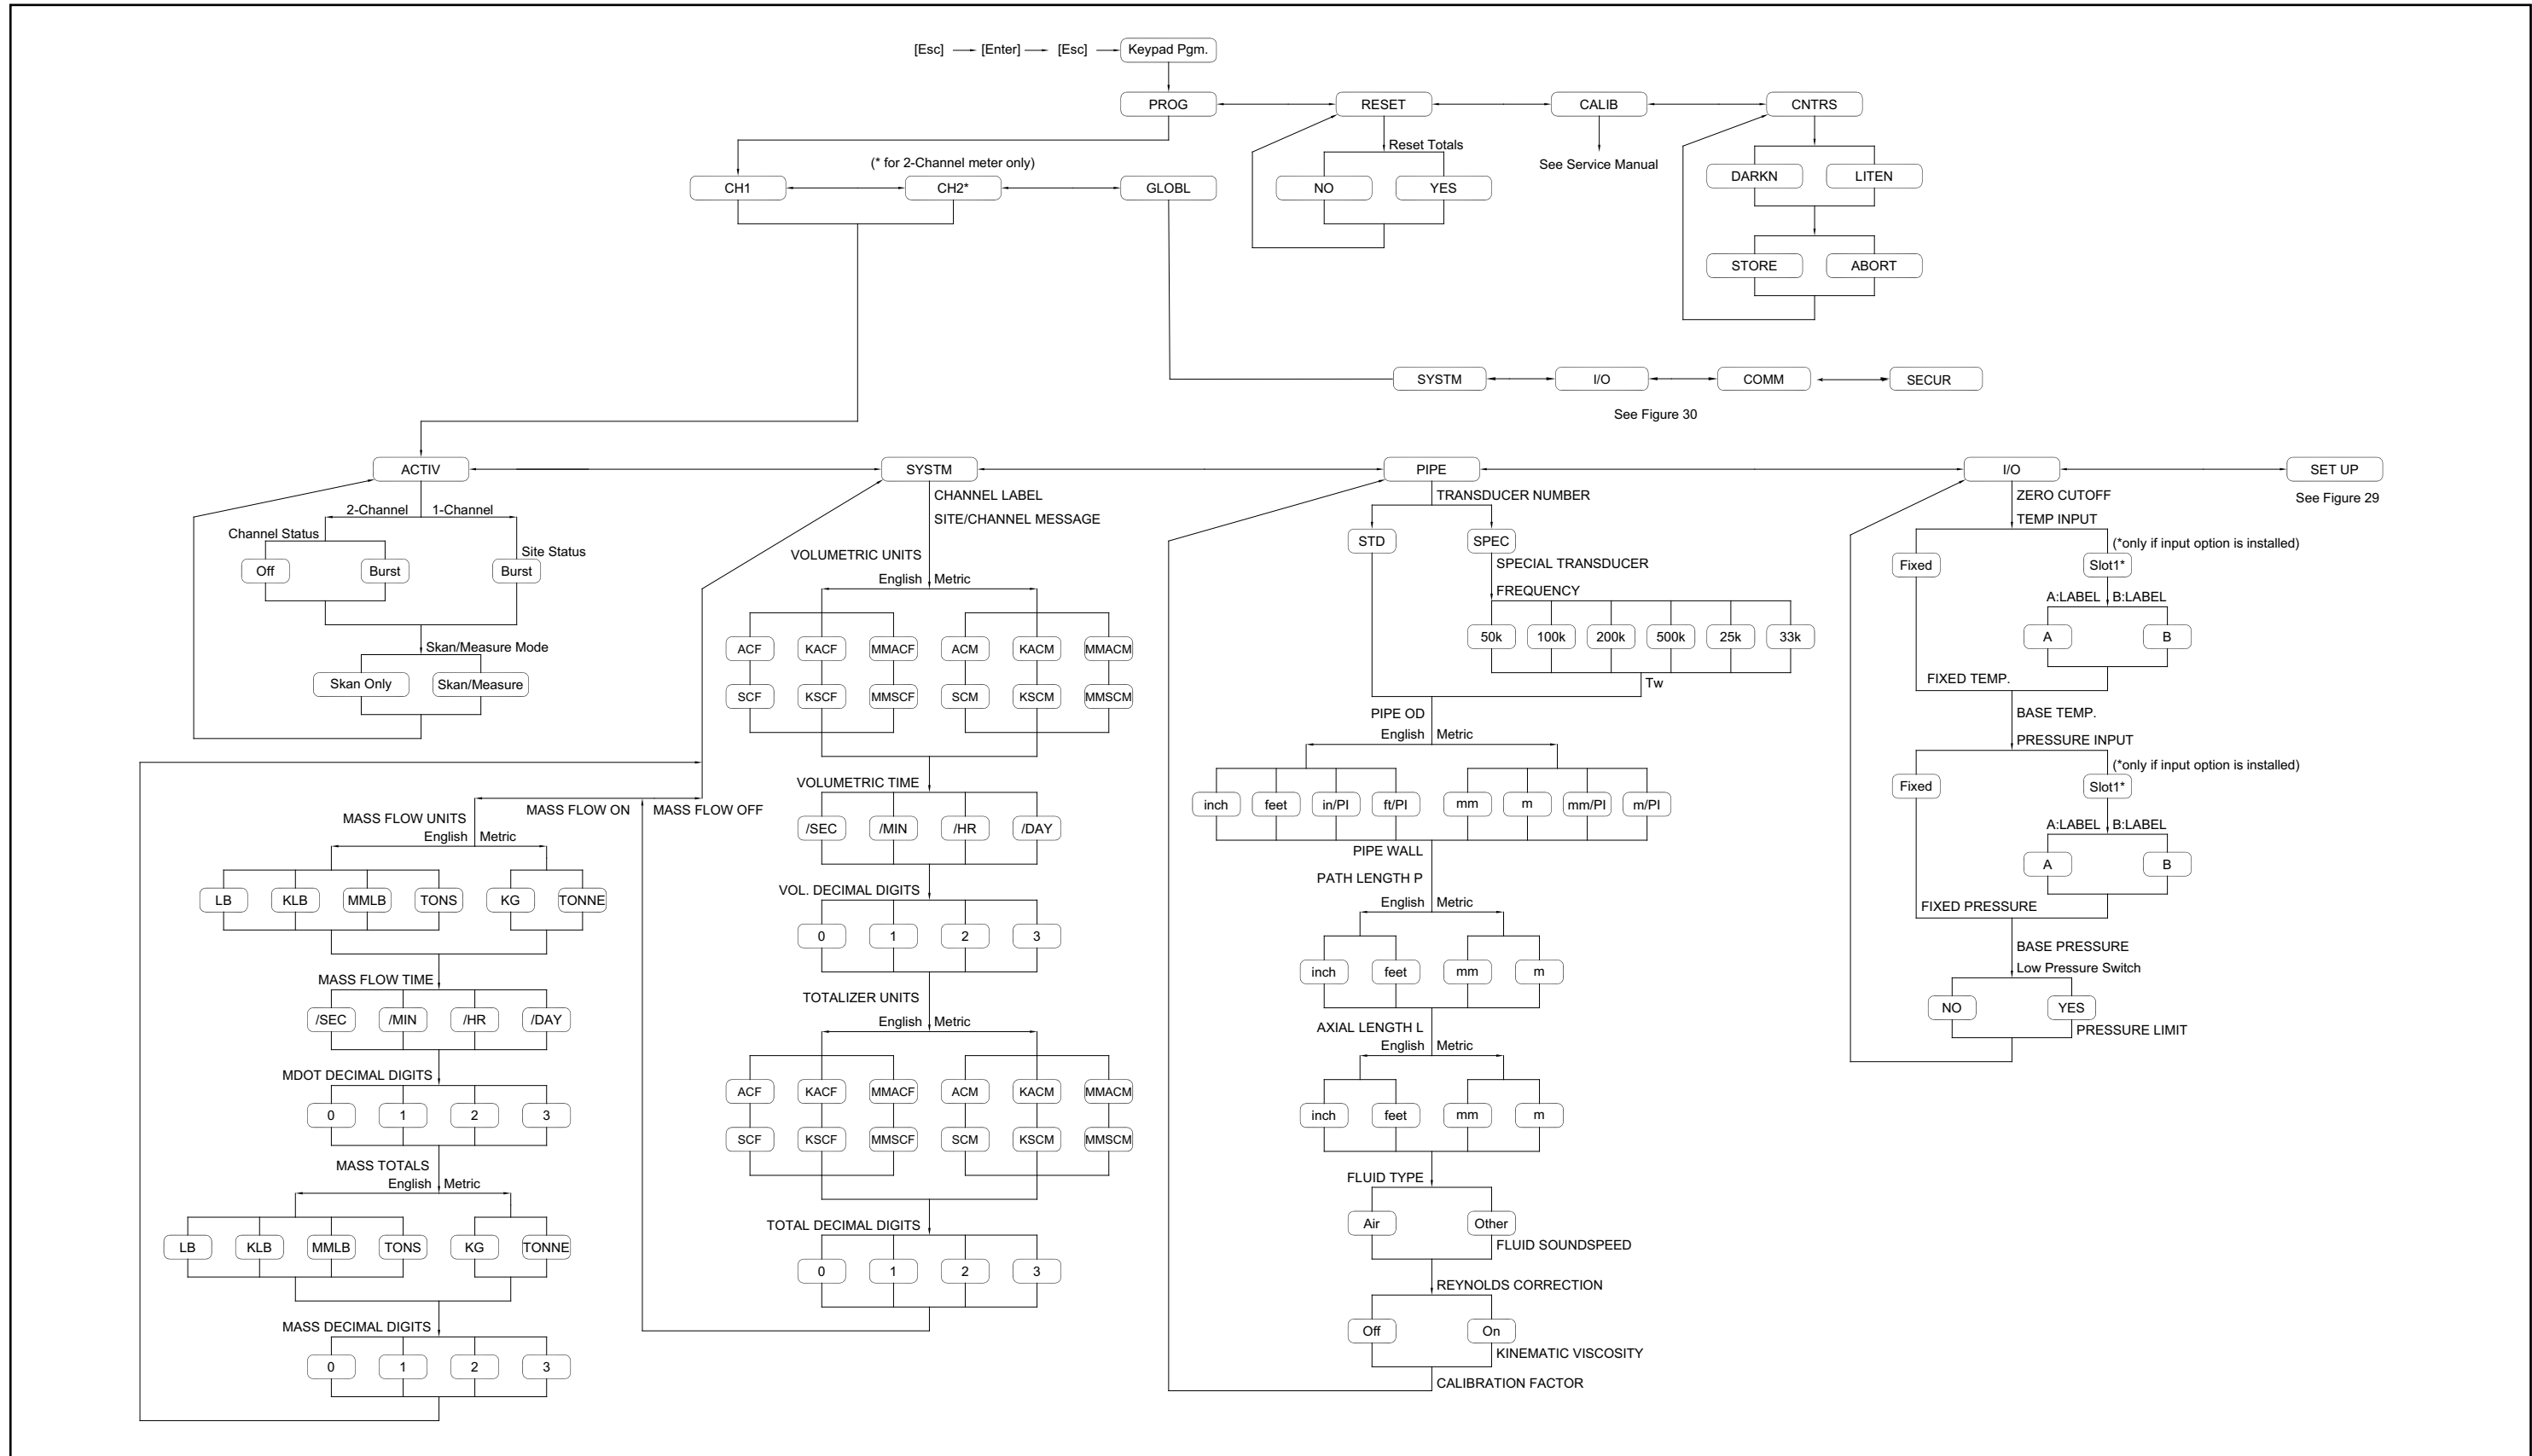

Figure 28: PROG > CHx > ACTIV, SYSTEM, PIPE & I/O Menus
- Figure 28, “PROG > CHx > ACTIV, SYSTM, PIPE & I/O Menus,” on page 61